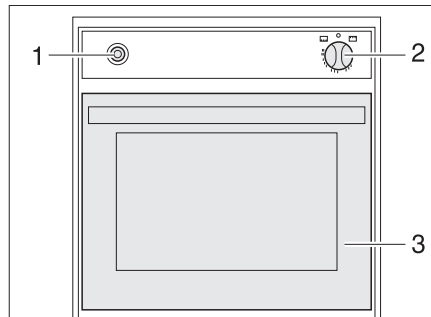

Fig. 129 Gas oven
- Fully open the oven flap (Fig. 129,3).
- Lightly press control knob (Fig. 129,2) and set to "🔥" (oven).
- Press the control knob (Fig. 129,2) and hold it down for 5 to 10 seconds. Gas will stream into the burner.
- Press the ignition switch (Fig. 129,1) repeatedly until there is a flame.
- Turn the control knob (Fig. 129,2) to "○". The flame fades.